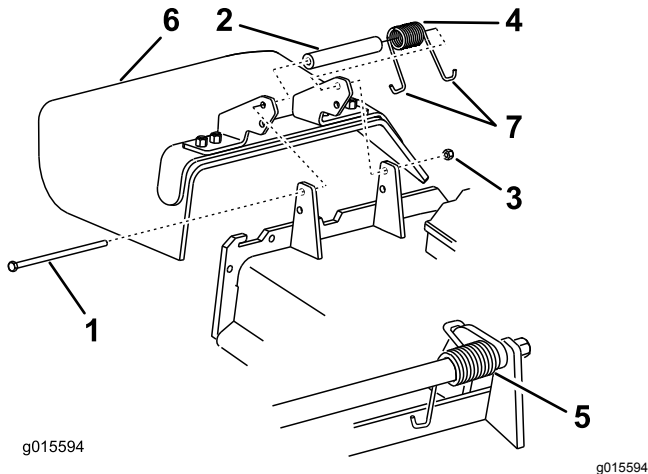

Figure 100
1. Remove the locknut, bolt, spring, and spacer holding the deflector to the pivot brackets (Figure 100).
**Note:** Ensure one J-end of spring is installed behind deck edge before installing the bolt as shown in Figure 100.
4. Install bolt and nut. Place one J-hook end of spring around grass deflector (Figure 100).